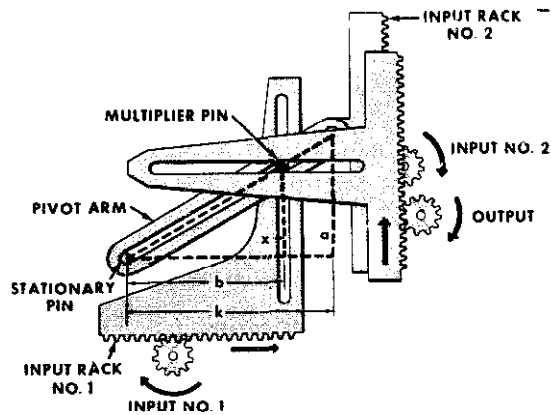

Figure 15-7.—Rack type multiplier. 12.94
The rack type multiplier in figure 15-7 performs the same task as the screw type multiplier. The differences are that (1) the screw input has been replaced with an input rack, and (2) the output rack is placed on the same side as the second input rack.